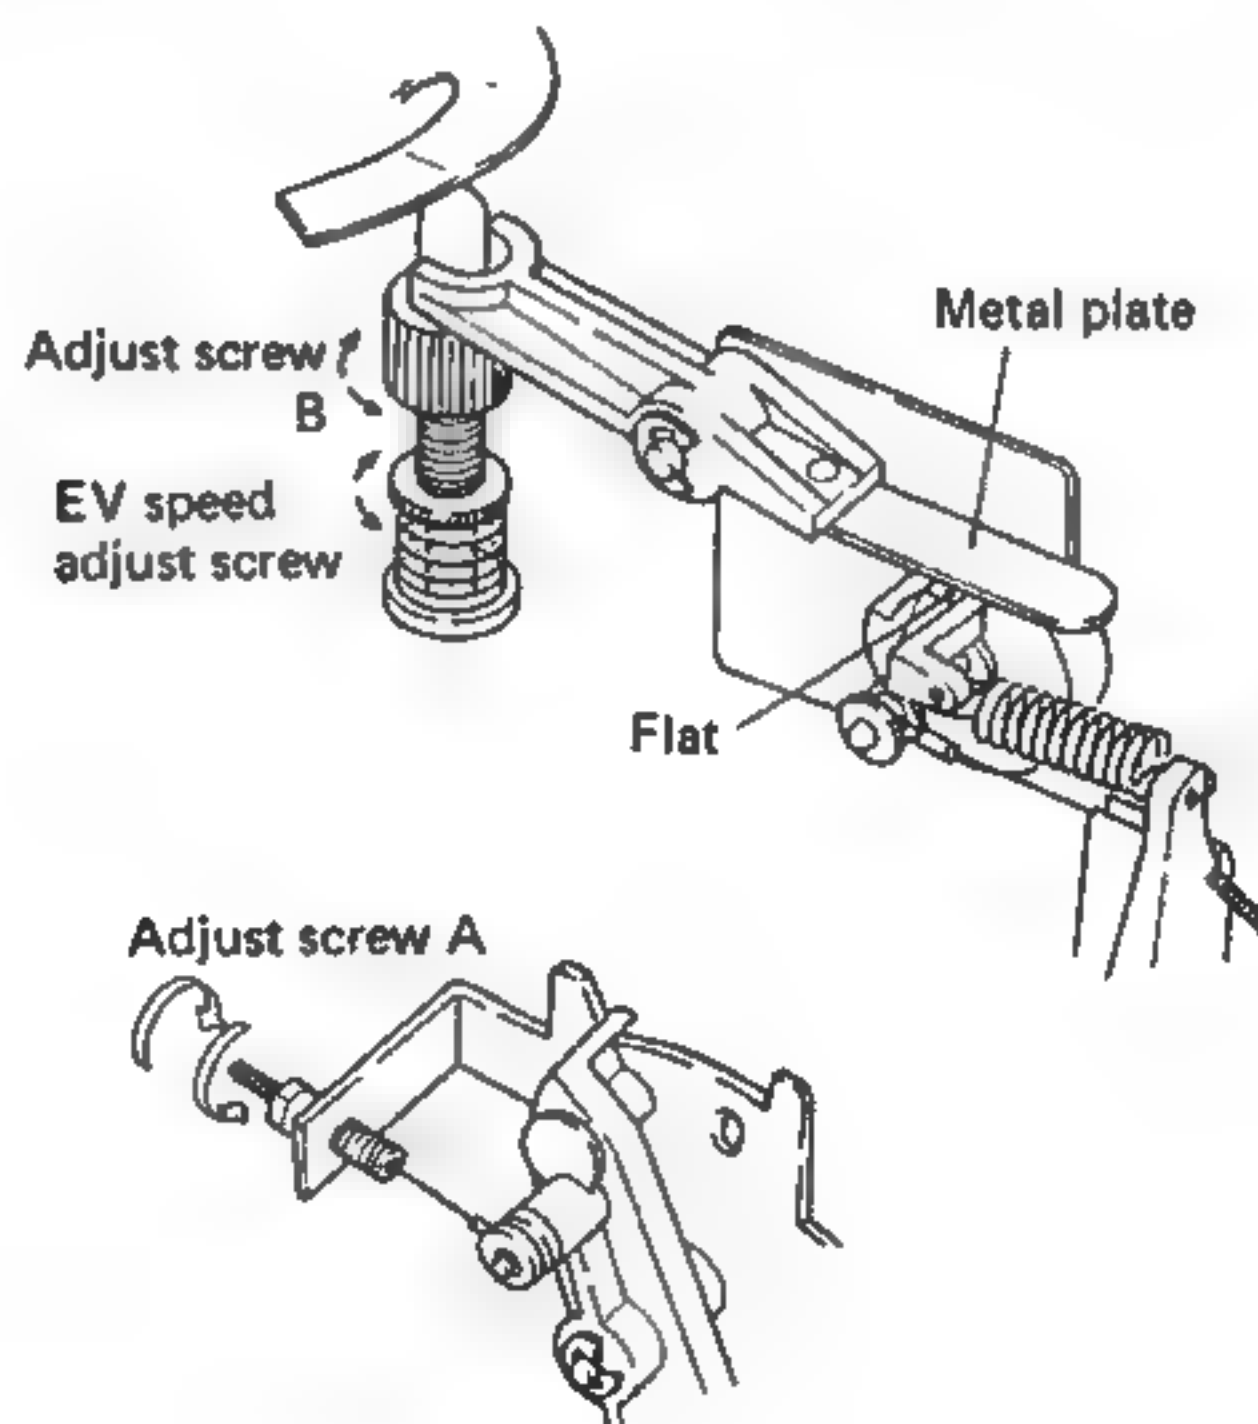

Fig. 20
1. When ARM ELEVATION lever is DOWN, adjust by turning screw A so that flat section and metal plate are firmly in contact, as shown in Fig. 20.